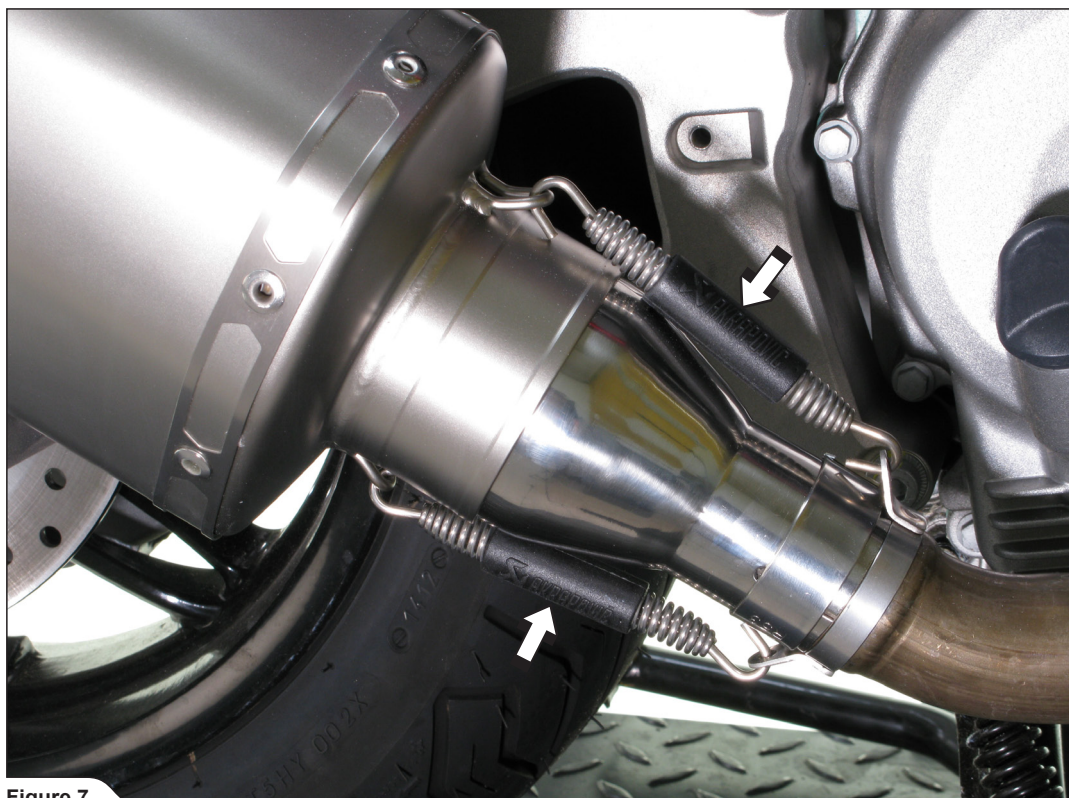

Figure 7
5. Attach the springs, align the clamps and tighten them to the specified torques (Figure 7, 8).